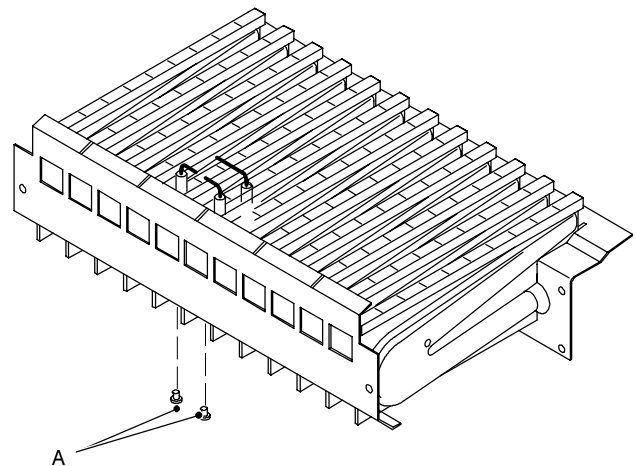

Fig. 82
- 5 Unscrew the screws A (Fig. 82) which hold the electrodes to the burner.